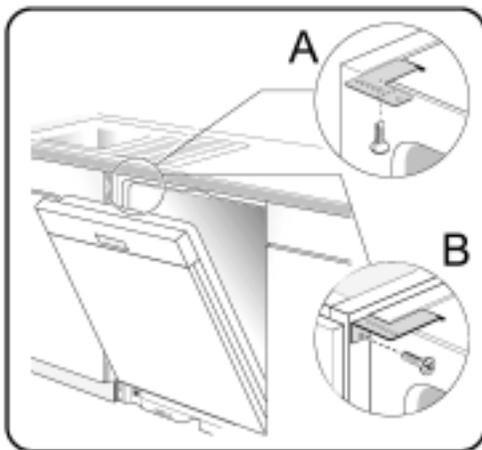

Figure 11/Ilus. 11
1) **Top Mount** is used for countertops made of wood or other materials that can easily be drilled. Orient the mounting brackets as shown in Figure 11, letter A, and position the two small tabs on the mounting brackets over the two slots on the dishwasher's front corners. Push the mounting brackets down firmly to insert the tabs into the slots.
2) **Side Mount** is used for countertops made of marble, granite, or other very hard materials that cannot be easily drilled. Bend the mounting brackets along the small holes and in the same direction as the two small tabs. Orient the mounting brackets as shown in Figure 11, letter B, and position the two small tabs on the mounting brackets over the two slots on the dishwasher's front corners. Push the mounting brackets down firmly to insert the tabs into the slots.